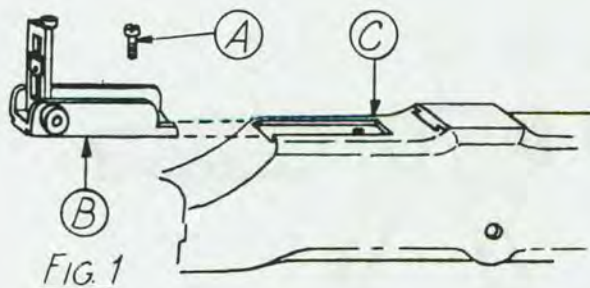

FIG. 1
- 6 EXTRACT SCREW (A) AND DRIVE REAR SIGHT (B) OUT OF RECEIVER (C) WITH A BRASS BAR, FIG. 1.